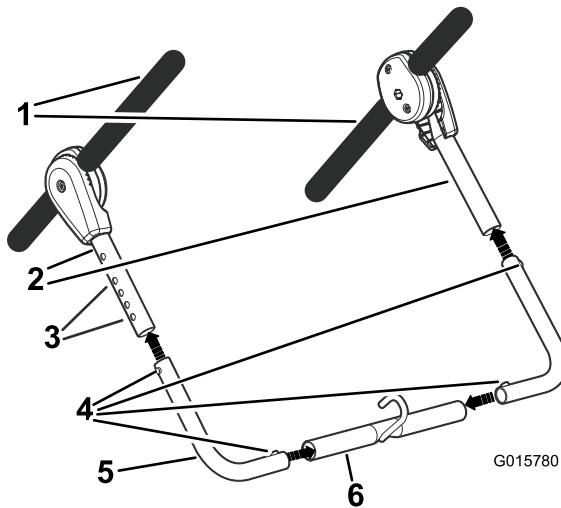

Figure 3
1. Attach corner tubes to the hitch tube by pressing down on the valco pins and locking them into place in the valco holes (Figure 3).
2. Attach the corner tubes to the vertical tubes by pressing down on the valco pins and locking them into place in the valco holes (Figure 3).